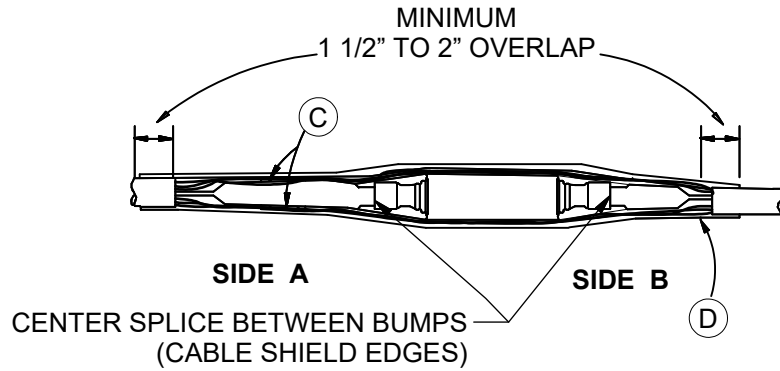

Figure 3
10. Lubricate insulation and semi-co shield of Cable B with silicone grease. Slide body onto Cable B and into final position over the connector. Use the bumps formed on the splice ends as guides for centering. See Figure 3.
11. Connect concentrics with two sleeves on Side A. For single phase cables place five wires per side into each sleeve. For three phase cables place all six wires into one sleeve. Crimp the sleeve. Snug sleeves and wires tightly against splice and cable. See Figure 3.